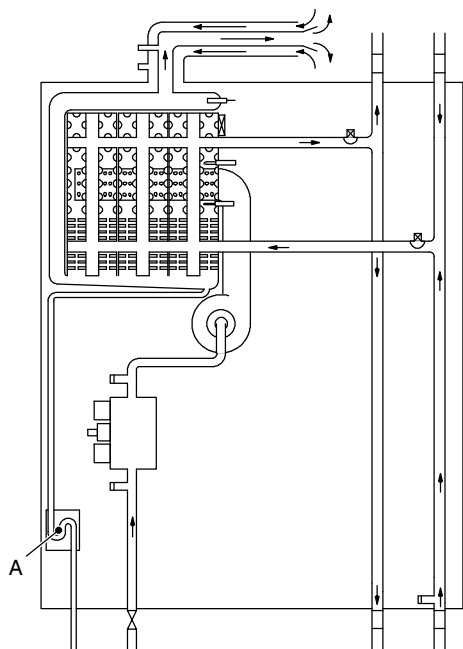
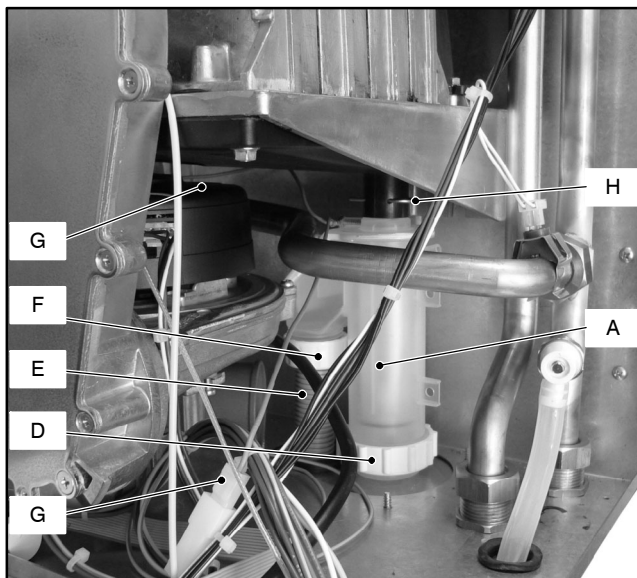
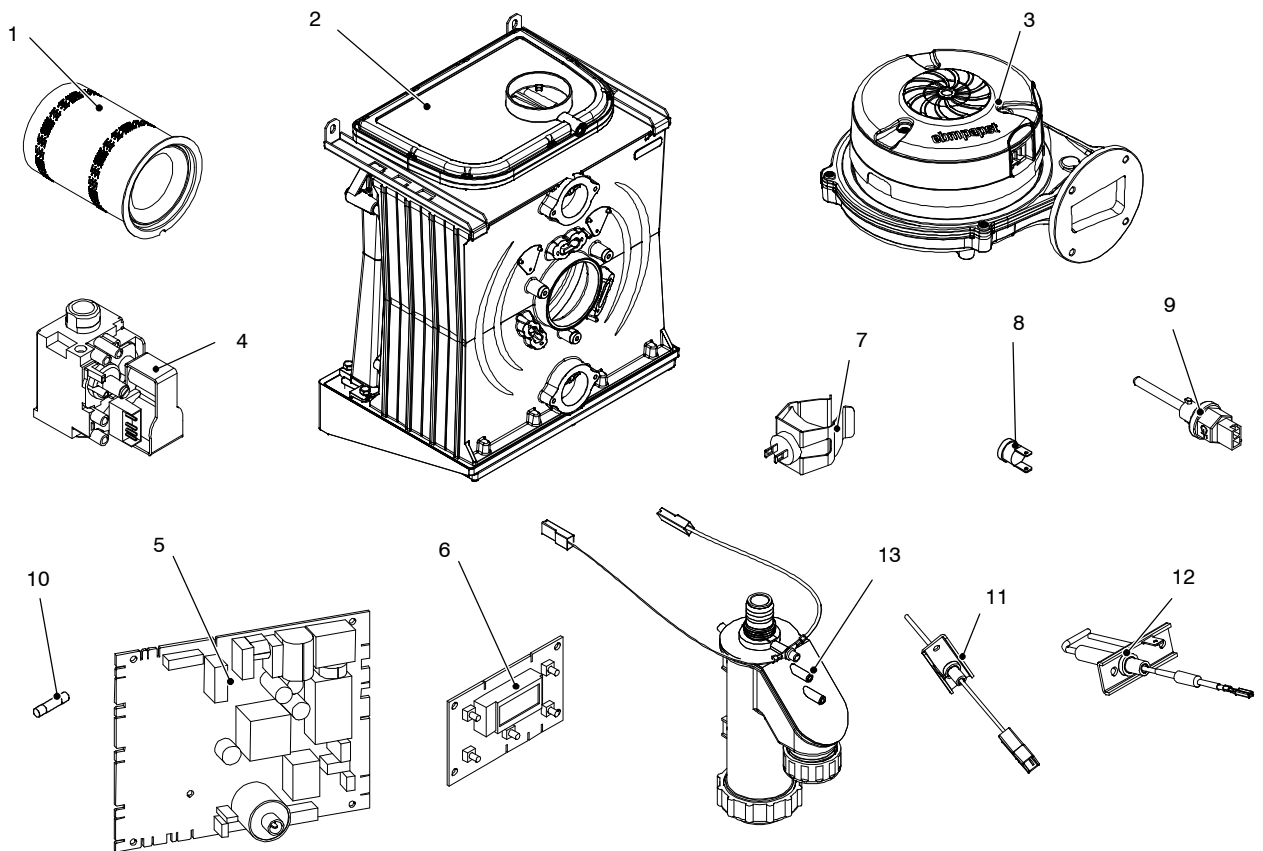

Fig. 14.1
Fig. 14.3
Fig. 14.4
The condensate trap *A* in Fig. 14.1 and Fig. 14.3 allows the discharge of the condensate via the condensate drain pipe avoiding in the mean time the escape of combustion products.
Unscrew the plug *D* on the bottom of the trap *A* and remove dirt eventually deposit (Fig. 14.3).
- 3 Unscrew the threaded locking ring *E* and remove the flexible pipe *F* (Fig. 14.3).
- 4 Disconnect the electric connector *G* (Fig. 14.3 – Fig. 14.4)
- 5 Remove the forks *H* and remove the condensate trap *A* moving it downwards (Fig. 14.3).